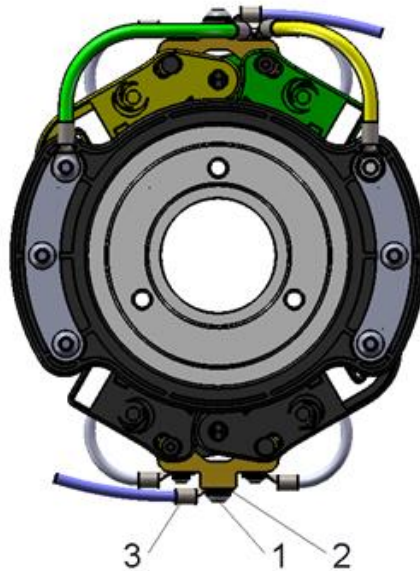

Fig. 13
- Remove the screw (1) and the washer (2) (Fig.13)
- Position the terminals (3) on the threaded hole
- Secure the terminals with the screw (1) and washer (2).